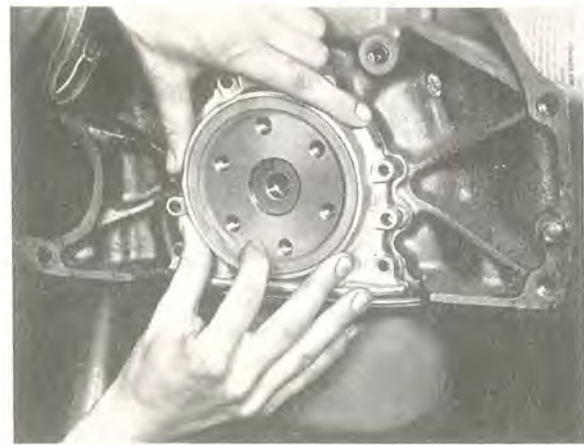

Fig. 2-29. Fitting sealing flange
4. Fit the sealing flange, its sealing surface well cleaned, and a new gasket. (Oil first the sealing ring.) The sealing flange should be mounted on the crankshaft carefully, see Fig. 2-29. Use your finger to fit on the sealing lip.